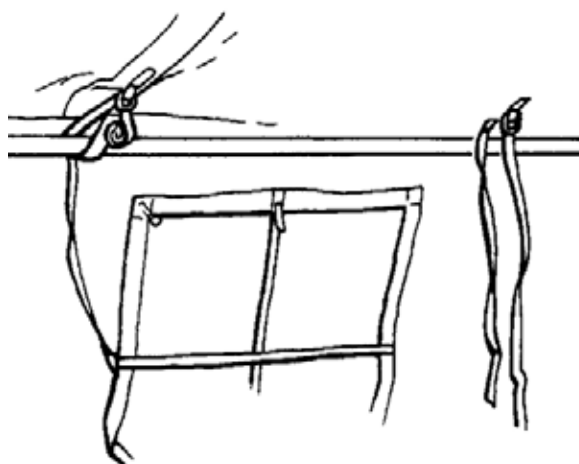
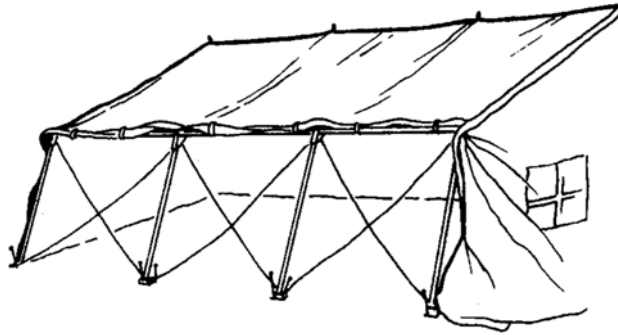

Figure 10 Save Straps
Figure 11 Bracing Cables
7. Attach save straps (straps on the underside of the canvas that attach to the purlins as illustrated in Figure 10) and bracing cables (support cables as illustrated in Figure 11) but do not tighten.